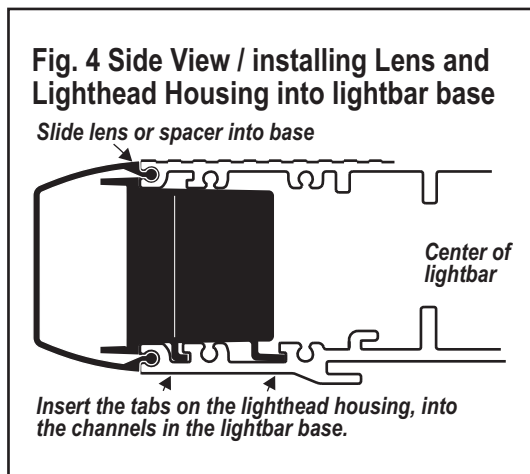
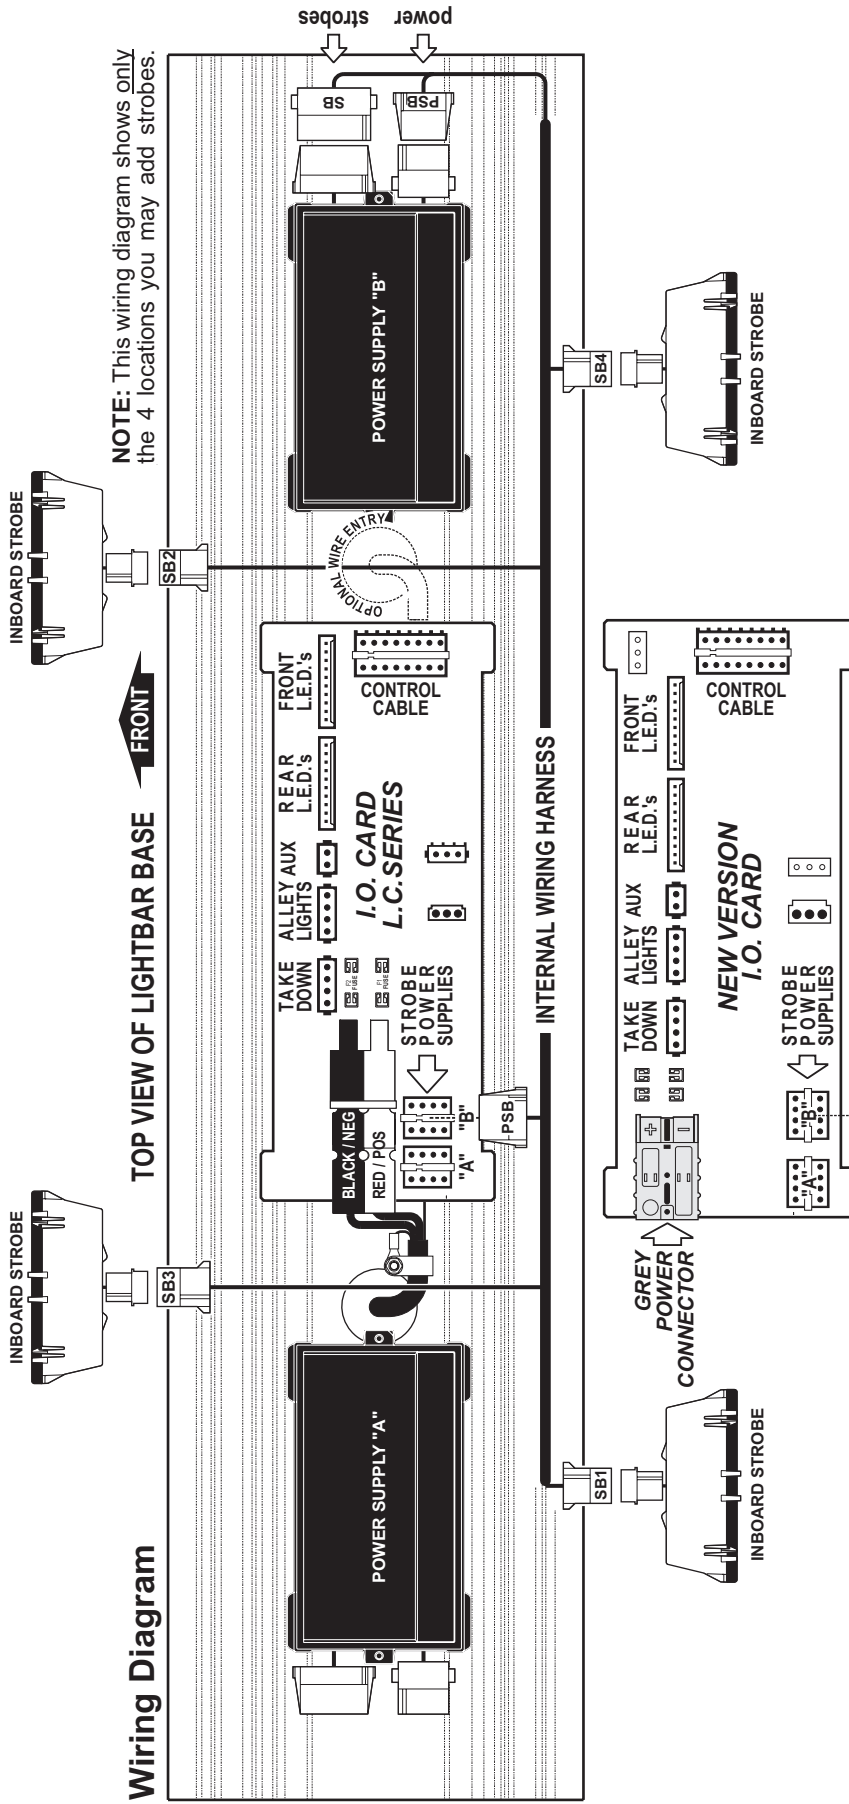
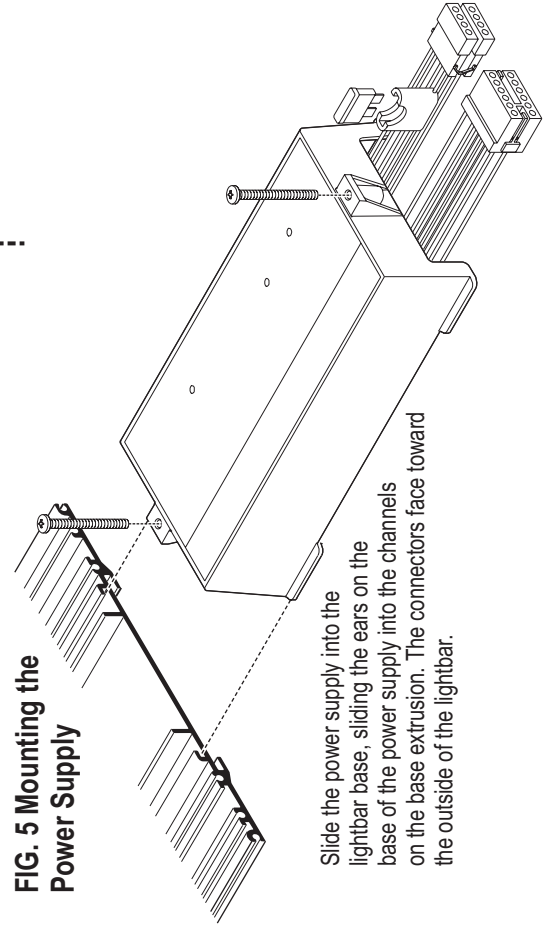

Fig. 4 Side View / installing Lens and Lighthead Housing into lightbar base
FIG. 5 Mounting the Power Supply
FIG. 6 Remounting the Top of the Lightbar Base
6. Install the new power supply as shown (Fig. 5). Slide the power supply into the base of the lightbar. Two of the screws that hold the top extrusion on will secure the power supply to the base when you remount the top of the lightbar (Fig. 6). Make sure that the power supplies connectors are facing out toward the end of the bar as shown.
1. Plug the power (PSB) and strobe (SB) connectors of the internal harness into the power supply as shown in the wiring diagram.
2. Install the lightheads into the lighthead housings (Fig. 5). Make sure that the lightheads connectors are routed through the wire exit holes located in the housing. Plug these connectors into the internal harness. Installation is complete and you may reassemble the lightbar.
3. First remount the top extrusion. Be sure that the screws line up with the power supply (Fig. 6), then replace the lenses and spacers you removed (Fig. 4).